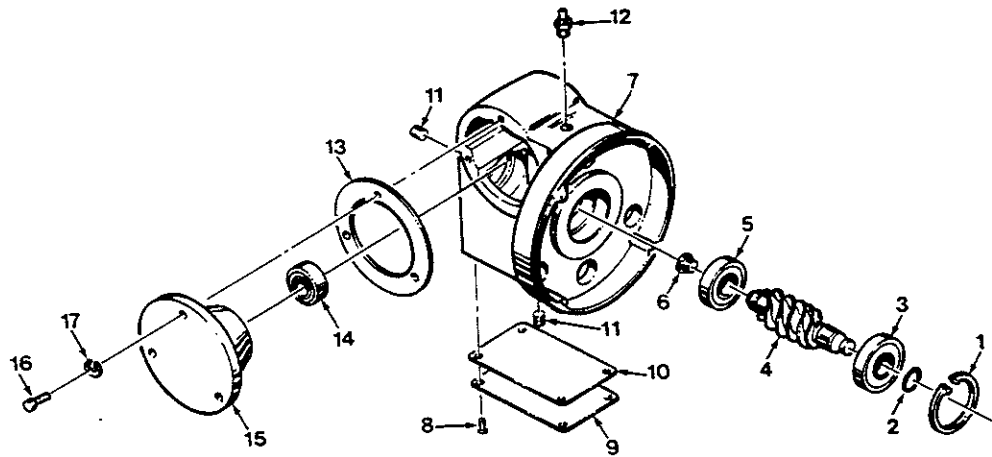

FIGURE 1. TRANSMISSION
DISASSEMBLY (See Figure 1)
INSPECTION (See Figure 1)
ASSEMBLY (See Figure 1)
3. Assemble transmission housing onto jack adapter flange using three cap screws (16), three lockwashers (17) and one gasket (13) (Angle shown in Figure 1 does not illustrate these seven items.)
14. Assemble stop nut (19) onto lifting screw (5) and retighten set screws (20).
15. Screw bottom pipe (4) into shell (3) (upright models) or into shell cap (2) (inverted models).
16. If jack is keyed, line up keyway and install key in shell cap (2) and bolt in place.
17. Operate unit to insure proper functioning of all components prior to final assembly with transmission and motor (See figures 1 & 2).